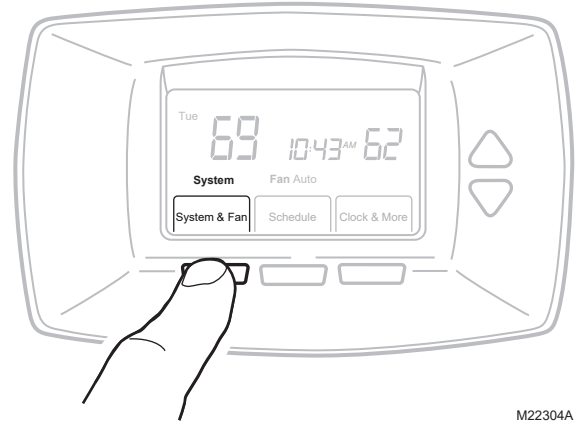

Fig. 31. Entering Installer Setup.
2. Press and hold the two keys on either side of the center key for approximately five seconds. (See Fig. 31.)